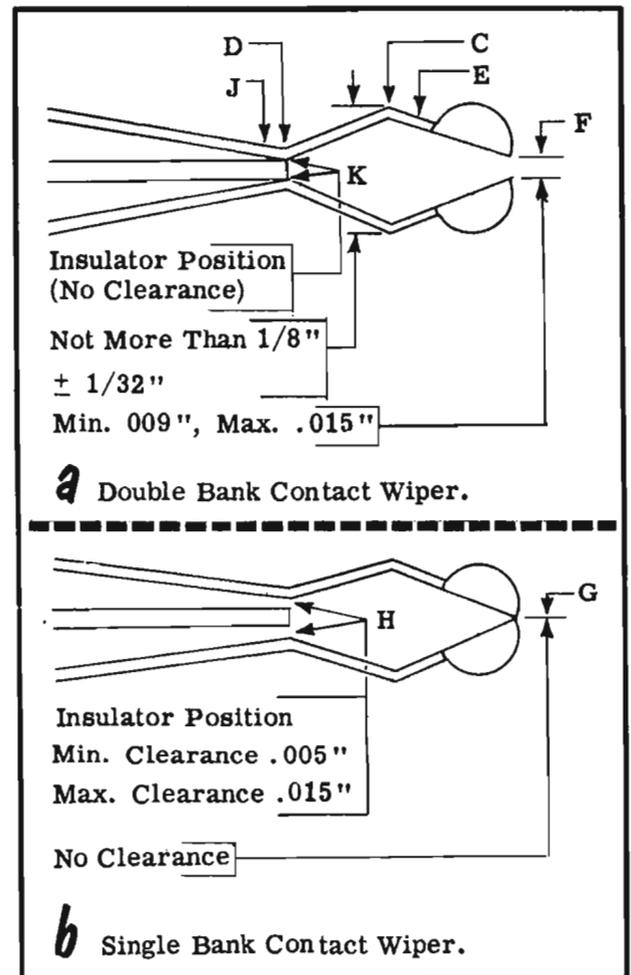

Figure 9. Wiper Tip and Insulator Clearance Requirements.
3.09 Check space between wiper springs at C (Fig. 9). Adjust by changing angle of bend at D and C.